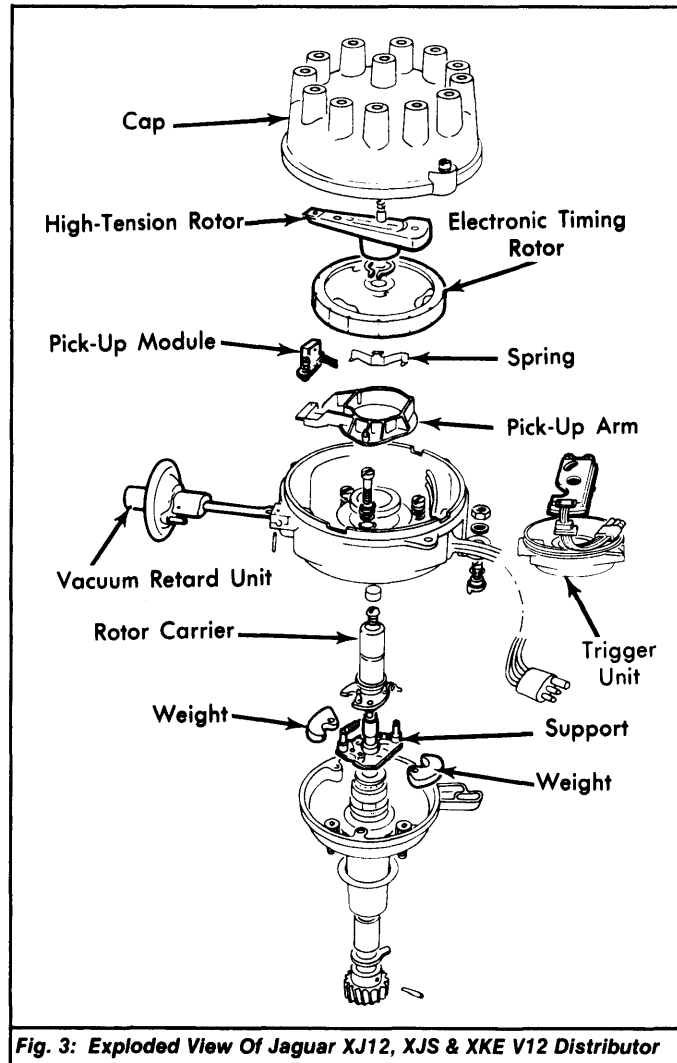

Fig. 3: Exploded View Of Jaguar XJ12, XJS & XKE V12 Distributor
The distributor consists of a centrifugal advance mechanism and either a vacuum advance or retard unit, a high tension rotor, an electronic timing rotor, a pick-up module assembly (if used), a fuel injection triggering device. See Fig. 3.
**Jaguar XJ12, XJS & XKE V12** - 1) Remove distributor, distributor cap, rotor, trigger unit, and electronic timing rotor. See Fig. 3. Lift vacuum operating rod off peg on pick-up arm. Pry cable grommet from distributor.